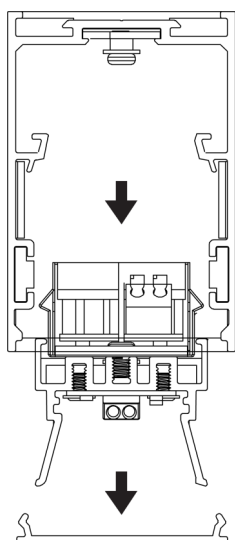
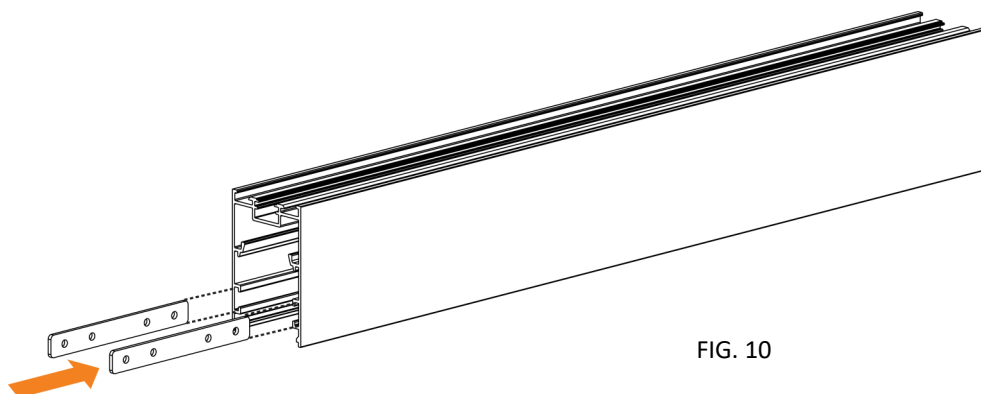

FIG. 9
FIG. 10
- Remove the cover and gear tray (Fig. 9). Insert the end-to-end brackets in the corresponding slots (Fig. 10).